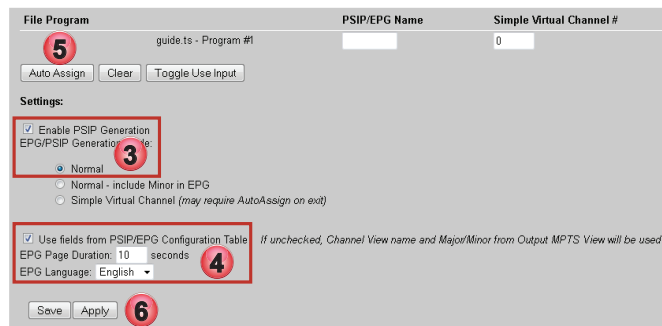

Figure 8-3: Select Normal EPG Mode
3. Be sure that the EPG/PSIP Generation Mode is set to its default value of **Normal**, Figure 8-3, (the only valid choice for the QAM to Analog machine. Other settings are for other Device Types) and tick **Enable PSIP Generation**.
5. Click the button **AutoAssign** to have names from the cable system channel map automatically entered in numeric order starting with EIA channel 2, Figure 8-3.